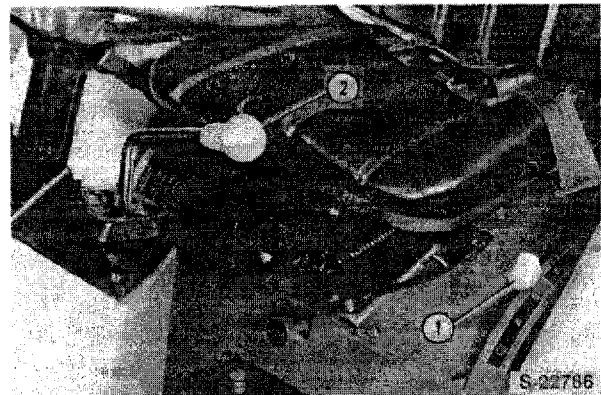

Figure 2
Two gearshift levers control the operation of the transmission, Figure 2.
The range selector lever (1), Figure 2, controls operation of the range transmission.
The main shift lever (2), Figure 2, controls the three forward and one reverse speeds of the main transmission.